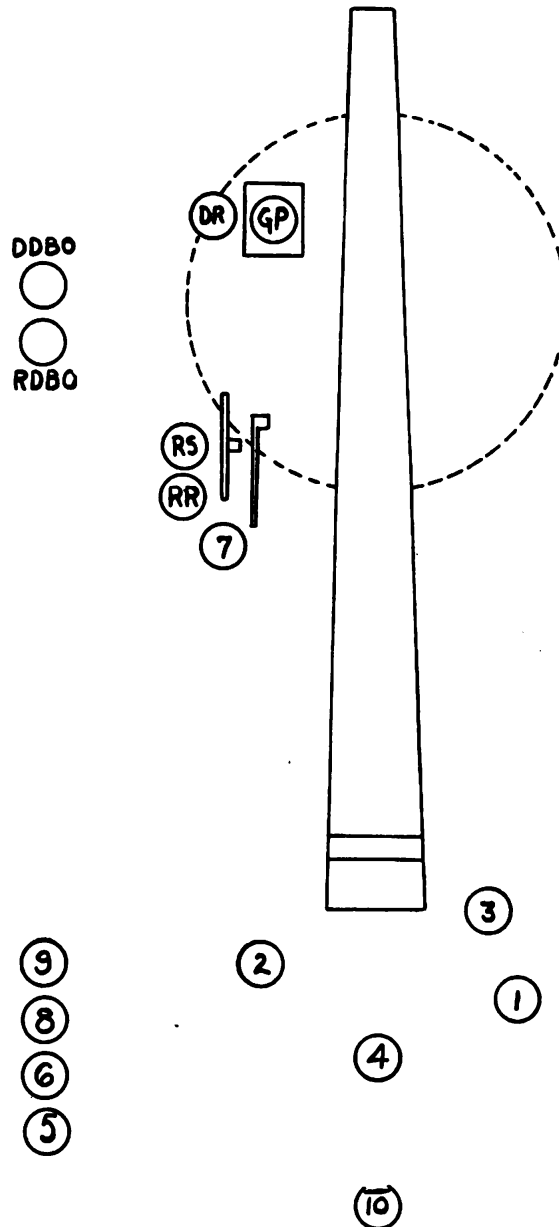

FIGURE 6.—Post of gun squad for 6-inch gun on disappearing carriage.
Q. What are the posts of the gun squad for the 6-inch gun on disappearing carriage? *A.* See figure 6.